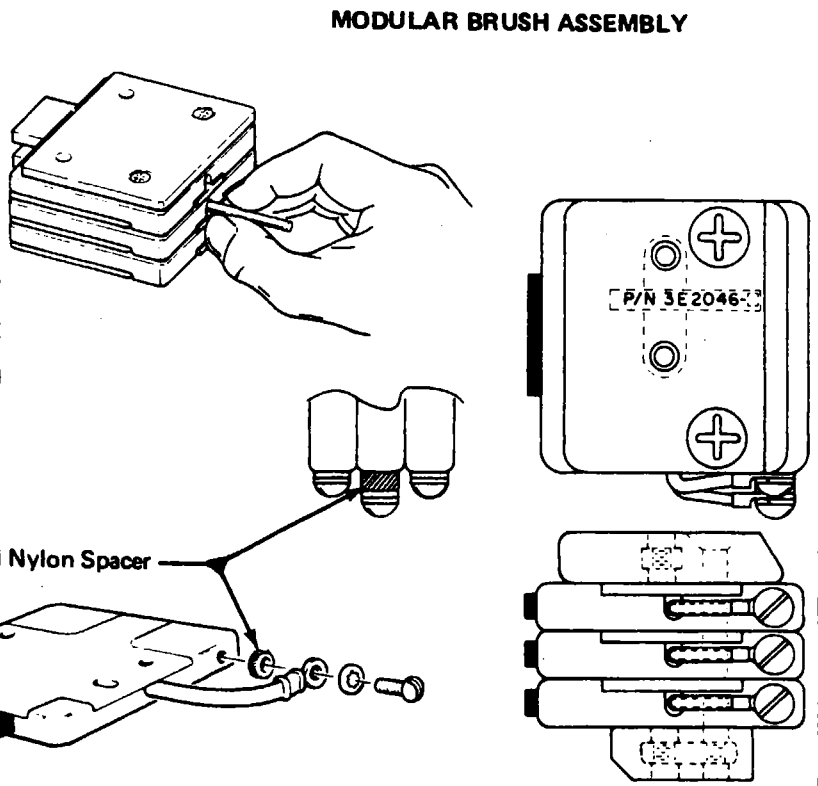

Figure 14-16. Brush Block Assemblies
14-30. BRUSH REPLACEMENT. Brushes are replaceable when the "B" barrel rests entirely within the block; for example, when the aft end of the .187 inch barrel is flush with the aft surface of the block. The brushes must be replaced when the aft end of the "B" barrel is .093 inch inside the recess. (Refer to Detail A, Figure 14-16.) If .312 inch barrels are used, refer to Detail B, Figure 14-16.
14-33b. BRUSH MODULE REPLACEMENT. Brush modules should be replaced when .375 inch of brush material remains; brush modules must be replaced when .250 inch remains. Measure the brushes as shown in Figure 14-16. Replace brush modules as follows:
- c. Restack modules and spacers as shown in Figure 14-16. If there is interference between adjacent ring terminals, reorient center module as shown in Figure 14-16.